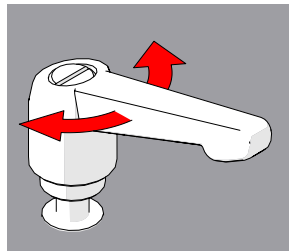

Fig. 27 - Rotate handle
2. Continue to pull while rotating the lever in the appropriate direction (Fig. 27).